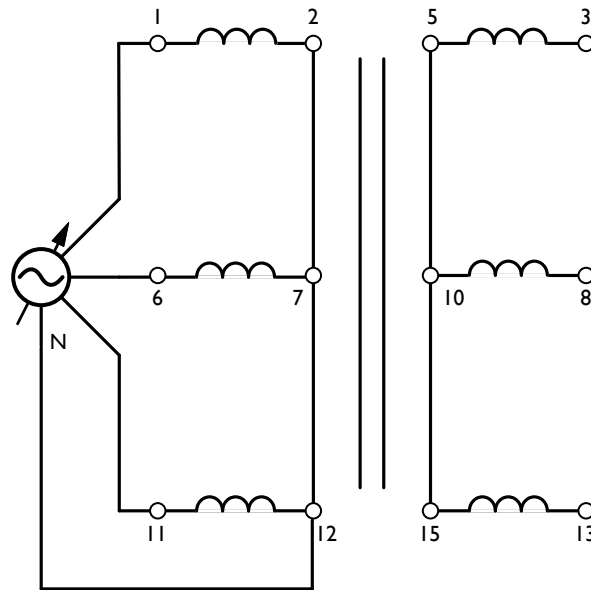

Figure 2.3: Three-Phase Transformer Connected in Wye-Wye
12. With the power off, connect all three transformers together in the three-phase **Y - Y** configuration shown in Figure 2.3.